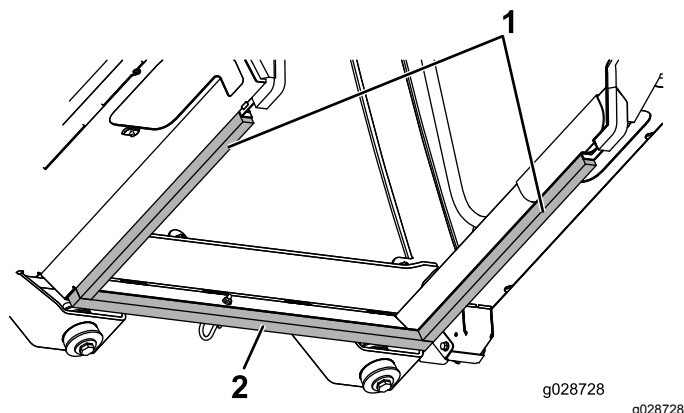

Figure 63
6. Center the front-foam seal on to front panel (Figure 63).
7. Press the forward edge of the side front foam seal into the front foam seal and align the inner edges of the foam seal with the inner edges of the seal panels of the cab frame (Figure 63).